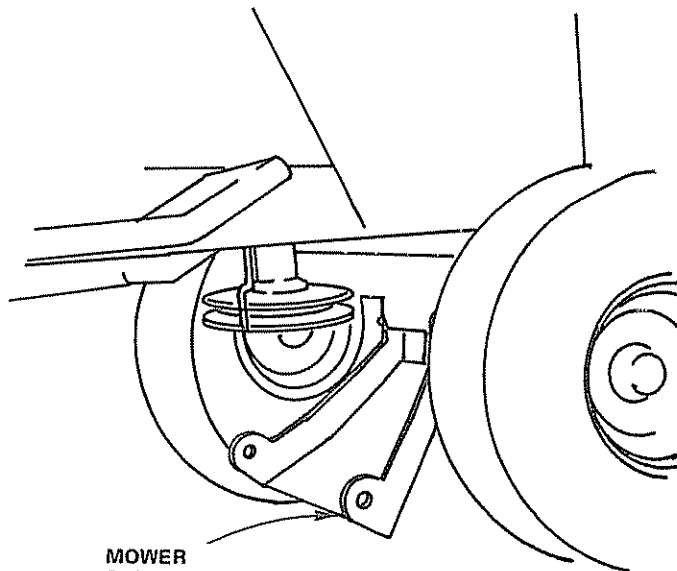

FIGURE 11
4. Remove bands from Mower Parallel Link (Fig. 11).
BEFORE DRIVING THE TRACTOR, INSTALL MOWER OR REMOVE MOWER PARALLEL LINK (FIG. 11).
Your tractor has been shipped with the Mower Parallel Link banded to the frame. Remove bands and lower Mower Parallel Link (Fig. 11).